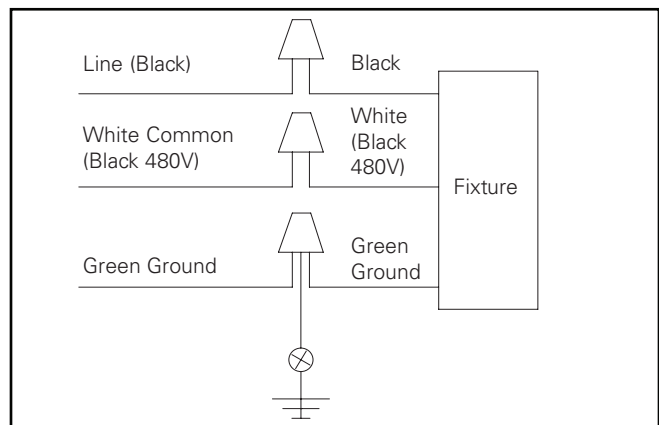

Figure 4.
4. Make wire connections inside the mounting arm. Refer to wire diagram for power connections. Connect the supply wires to appropriate luminaire leads: (Figure 4.)
7. Make wire connections inside the fixture. Refer to wire diagram for power connections. Connect the supply wires to appropriate luminaire leads: (Figure 4.)
8. Tuck wires into the fixture and install fixture door. Tighten the (4) fixture door screws to 20 in-lbs. (or tighten door thumb screws).